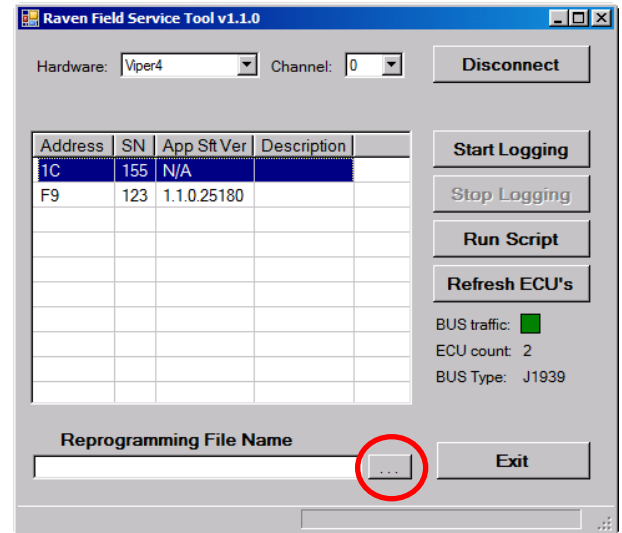

Figure 15 Raven Field Service Tool.
15. Click *Connect* (Figure 15).
16. Click on "... " (see the red circle in Figure 15).